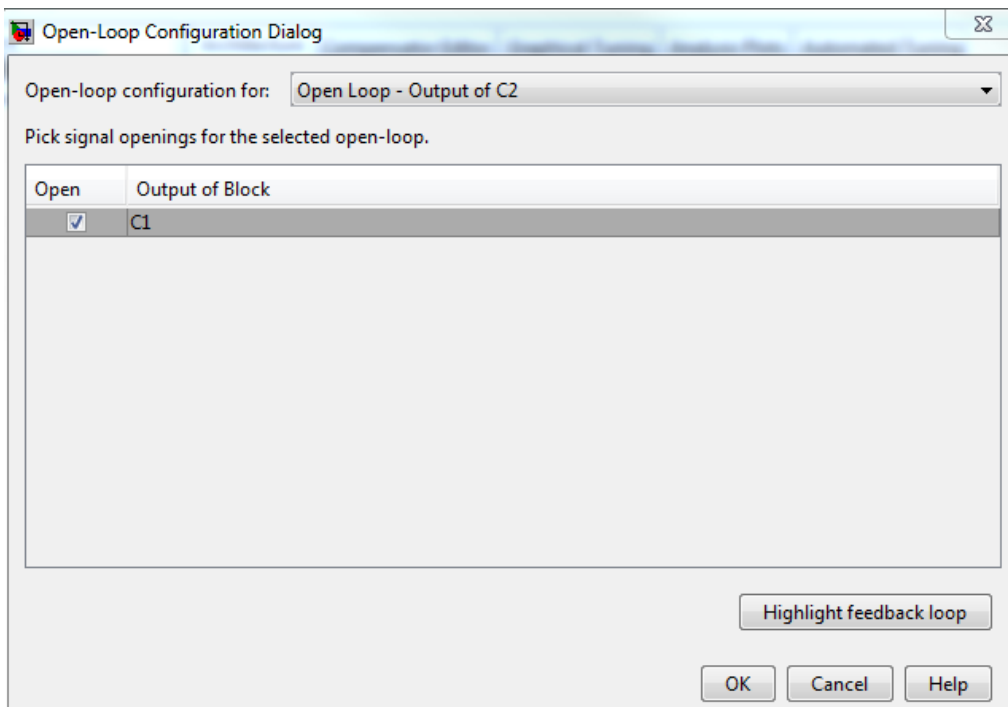

Figure 19. Open Loop Output of C2 Block.
*In the block Open-loop configuration for: select **Open Loop Output of C2** and select **Open** for Output of Block C1 (see Figure 19), then click **OK**.*